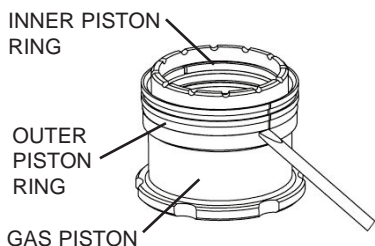

Figure 11A
The gas piston assembly in your model 940™ shotgun may be fitted with a single outer piston ring, or with two outer piston rings secured with a retaining ring. For a gas piston assembly fitted with a single outer piston ring as shown in Figure 11A and 11B, follow the instructions below for gas piston disassembly.
1. Insert a small flat head screwdriver between the outer piston ring to the left of the split and the rim on the gas piston (Figure 11A).